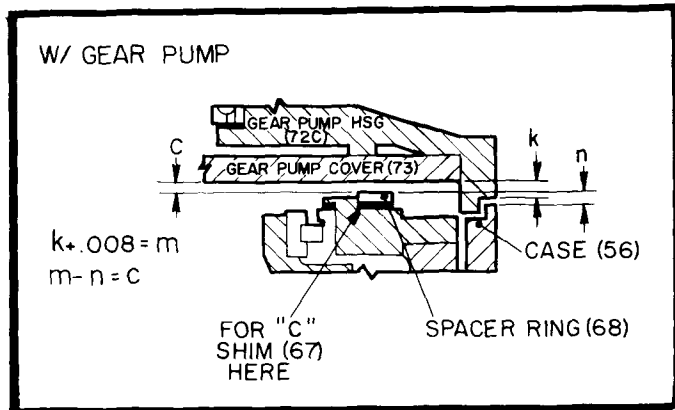

Figure 11. Slideblock End Clearance W/Gear Pump. (508644).
See Figure 11. Place spacer ring (68) onto slideblock cover without shims (67) in place.